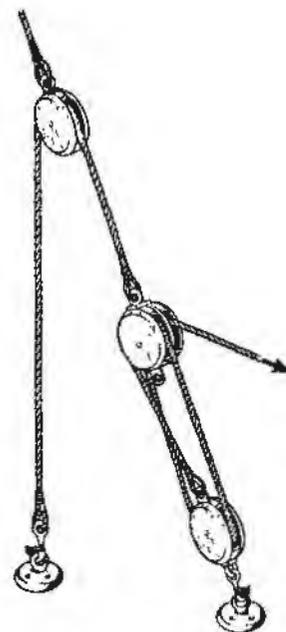

FIG. 8-18. Runner and tackle
**Runner and tackle (fig. 8-18)**